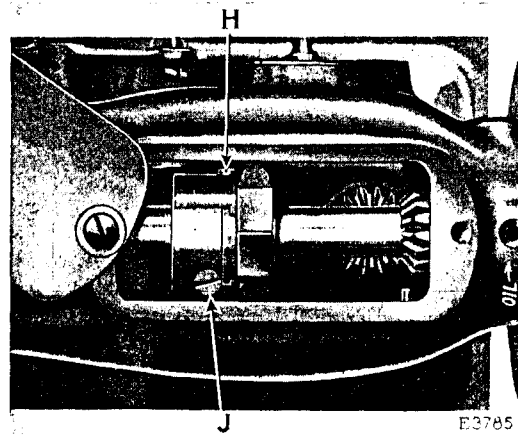

Fig. 18. Adjustment for Regulating Amount of Travel of the Needle Bar
Swing back the cover plate at the top of the machine and loosen the screw (H, Fig. 18) in the needle bar driving eccentric on the arm shaft. To increase the throw or amount of travel of the needle bar for a longer stitch, turn the large screw (J, Fig. 18) on the needle bar driving eccentric over to the left or upwardly. To decrease the throw of the needle bar for a shorter stitch, turn the large screw (J) over to the right or downwardly. When the required throw of the needle bar is obtained, firmly tighten the screw (H).